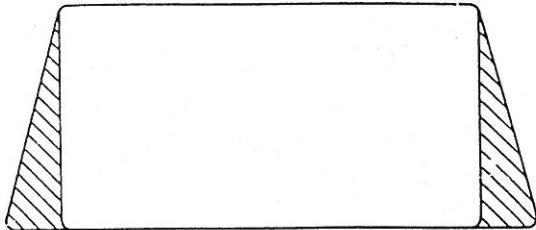

Fig. 3
- **Keystone effect;** this can be corrected by giving the black frame around the picture a rectangular shape and by using a trapezoidal mask in the projector, but by doing so the part of the picture shaded in fig. 3 is cut off, which may be annoying when sub-titles are used.